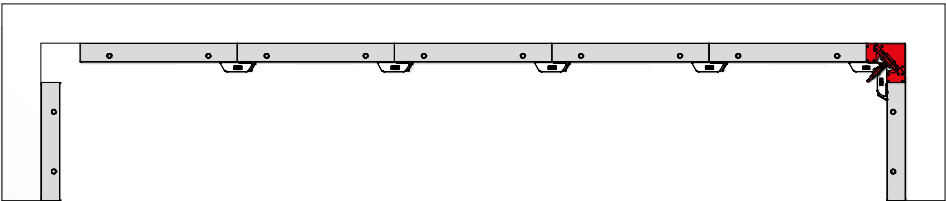

Fig. 34.3
- 3. Lift the stripping corners off, then strip the panels (Fig. 34.3).